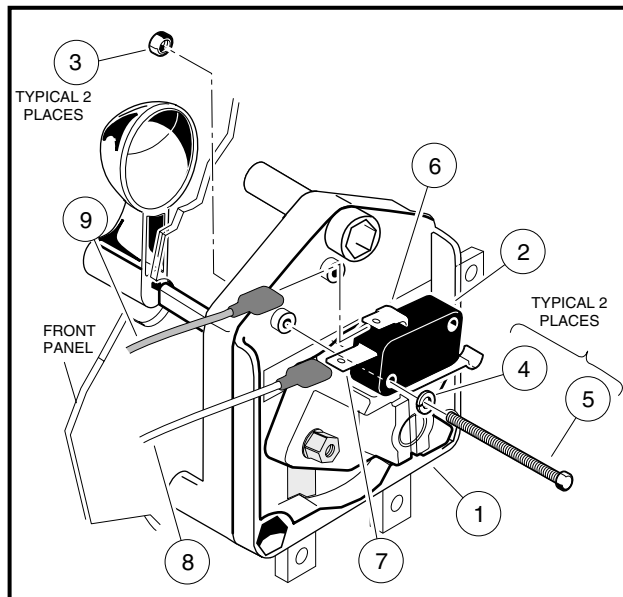

Figure 12-3 Forward/Reverse Anti-arcing Limit Switch
1. Remove the nuts, lock washers, and screws attaching the anti-arcing limit switch to the Forward/Reverse switch (Figure 12-3, Page 12-3).
1. Position the anti-arcing limit switch (2) on the Forward/Reverse switch housing and install the screws, lock washers, and nuts. Tighten the screws to 5 in-lb (0.6 N·m) (Figure 12-3, Page 12-3).
2. Connect the blue wire (9) to the common (COM) terminal (6) and the yellow wire (8) to the normally open (NO) terminal (7) (Figure 12-3, Page 12-3).